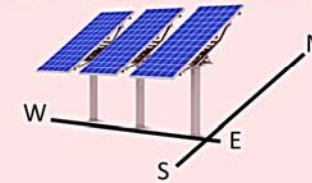

Fig. 2: Orientation of Solar Panel
- Install solar panel at an angle given by $\theta = (\text{LATITUDE of the site} + 10)$ degree from horizontal. (Ref. Fig. 2)